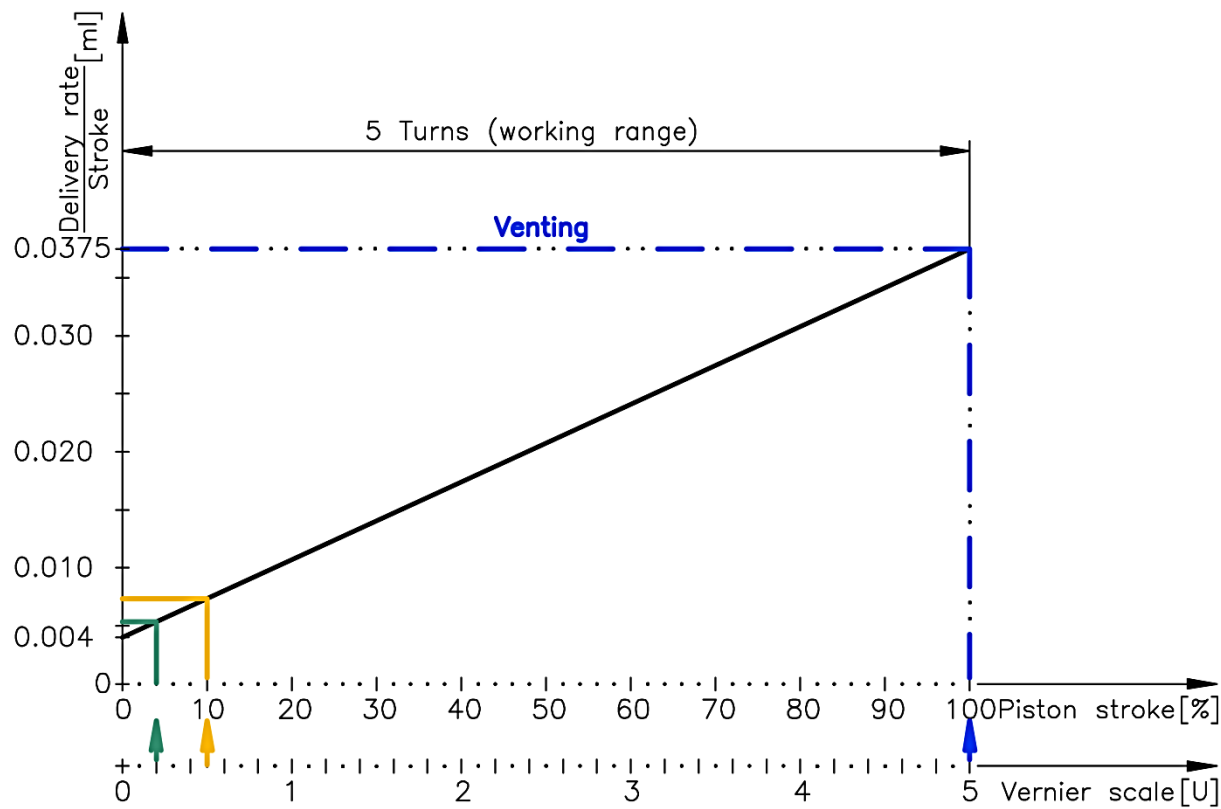

Fig. 20: Delivery rate as a function of the piston stroke
10.1 The following diagrams (*Fig. 20 & 21*) and calculations allow the lubricant consumption to be determined for different settings. The values are based on continuous operation; when coupled with the work process (e.g. feed rate), reductions in consumption of 50% or more can be achieved. The settings are made according to Chapter 7.
Consumption with 0.5 turns of micrometer screw and 20 pulses/minute (*Fig. 20 & 21*)
Consumption with 0.2 turns of micrometer screw and 10 pulses/minute (*Fig. 20 & 21*)